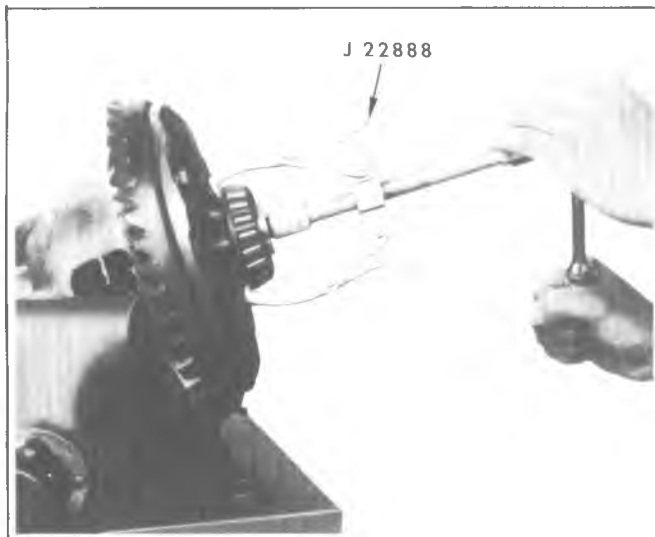

Fig. 4C-4--Removing Side Bearing
2. Remove bearing cones from case, using puller J-22888 and correct plug (fig. 4C-4) and remove shims from case. Identify all parts so they may be reassembled in their original location.